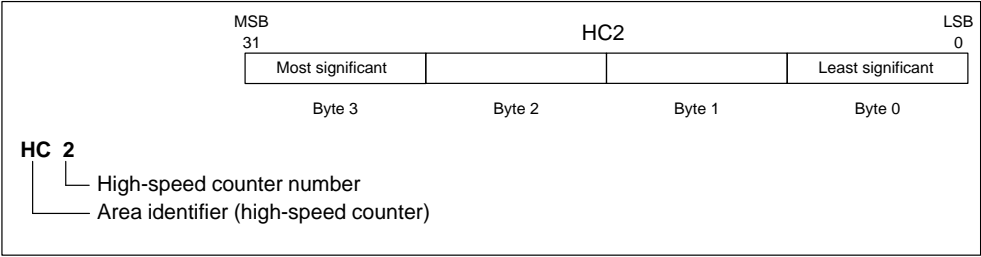

Figure 7-8 Accessing the High-Speed Counter Current Values
High-speed counters are designed to count events faster than the CPU can scan the events. High-speed counters have a signed, 32-bit integer counting value (or current value). To access the count value for the high-speed counter, you specify the address of the high-speed counter, using the memory type (HC) and the counter number (such as HC0). The current value of the high-speed counter is a read-only value and, as shown in Figure 7-8, can be addressed only as a double word (32 bits).